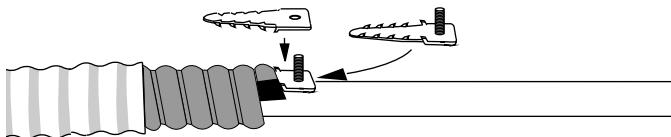

Figure 9
- Slide the base plate under the armor. Be careful not to damage the intrabuilding cable (Figure 9).